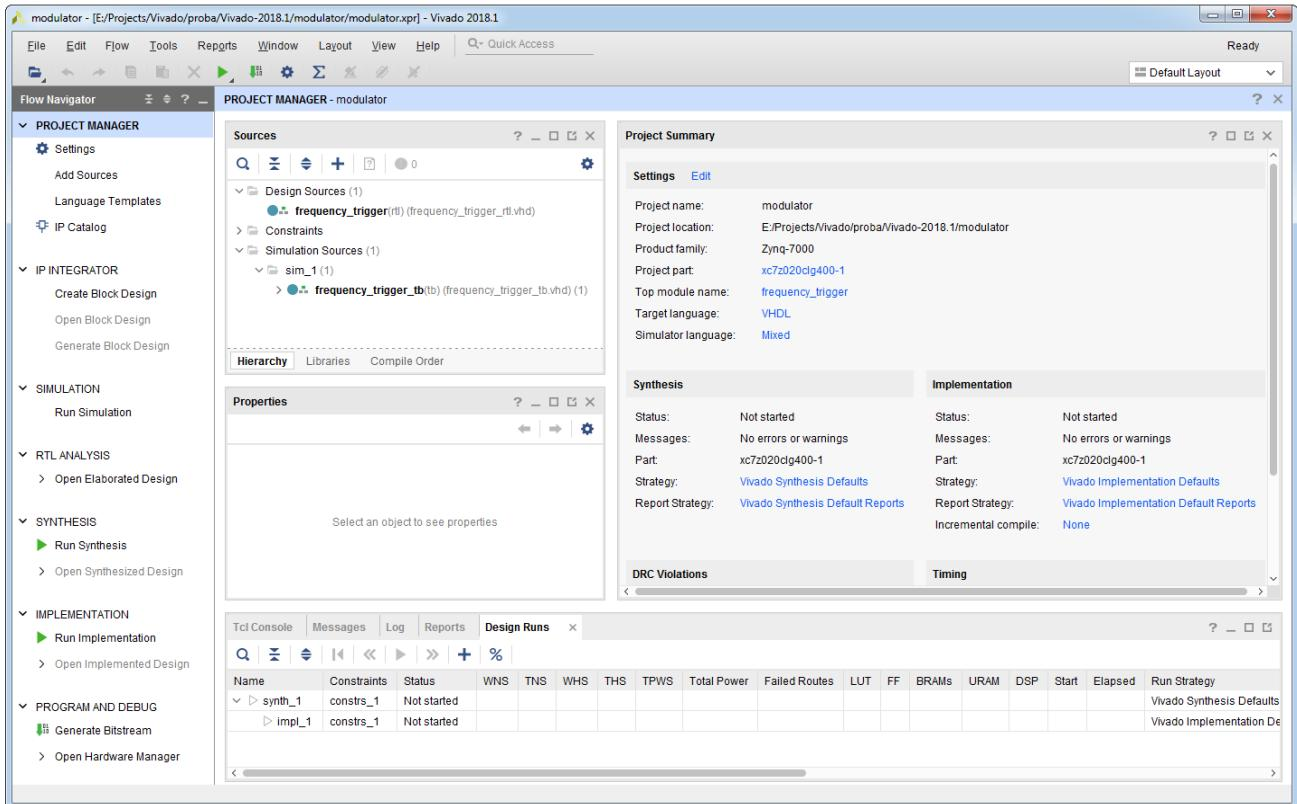

Figure 2.33: Vivado IDE Viewing Environment with added test bench file
14. Click **Finish** and your test bench file should appear under the **Simulation Sources / sim_1** in the **Sources** view, in the **Project Manager** window, see Figure 2.33.